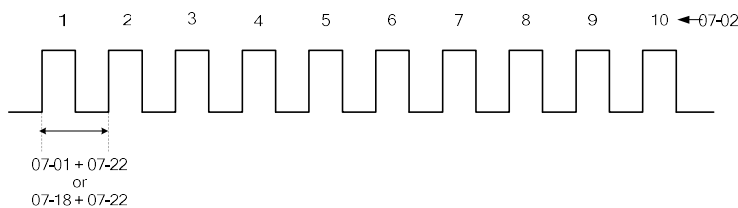

Figure 4.3.76 Automatic restart interval
- Refer to Figure 4.3.76 automatic restart interval.